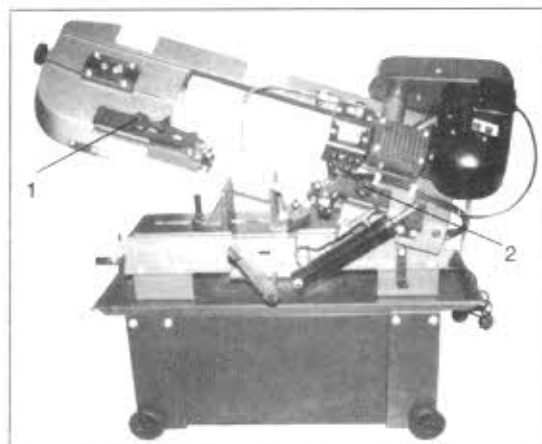

Fig.6
2. Loosen knob (1, Fig. 6) and knob (2). Slide blade guide assemblies as close as possible to the material without interfering with the cut.
3. Tighten knob (1) and knob (2) and connect machine to the power source.